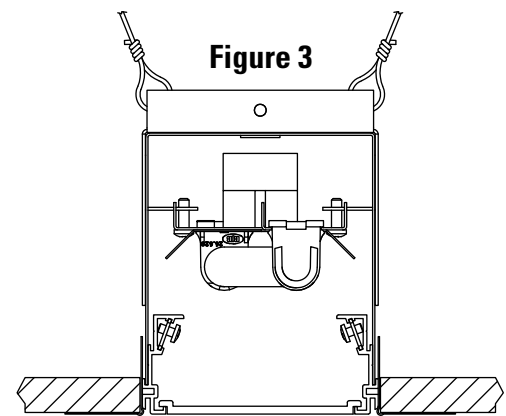

Figure 3
6. Install all diffusers provided with fixtures. (Fig. 3)
9. Install all diffusers provided with fixtures. (Fig. 3)